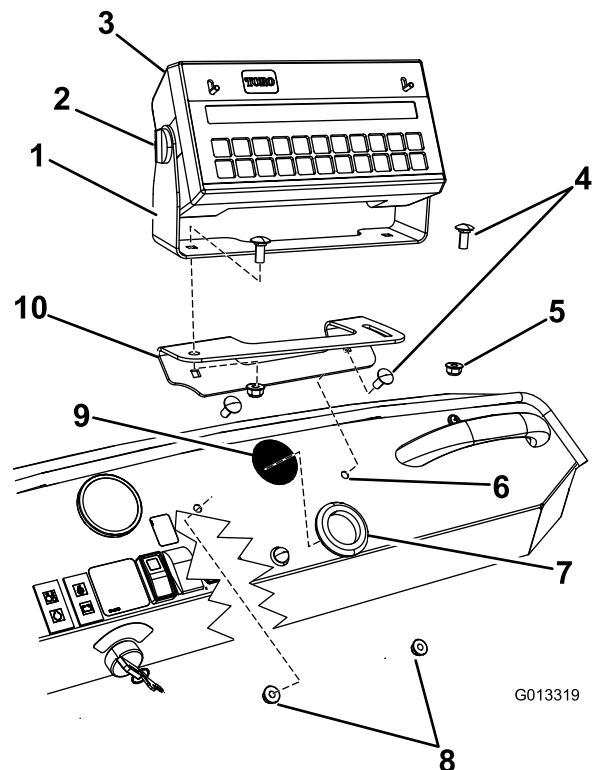

Figure 6
1. Locate and remove the knockout plug in the dashboard. Install the large grommet into the opening in the dash (Figure 6).
2. Locate the mounting bracket with the curved slot in loose parts. Install the bracket to the dashboard and secure it with two carriage bolts (5/16 x 3/4 inch) and two lock nuts (5/16 inch) as shown in Figure 6.
7. Assemble the computer console to the pivot bracket with two hand knobs (Figure 6).
8. Attach the console computer assembly to the mounting bracket. Secure the pivoting bracket to the mounted bracket as shown in Figure 6 using two carriage bolts (5/16 x 3/4 inch) and two lock nuts (5/16 inch). Finger tighten the fasteners at this time.